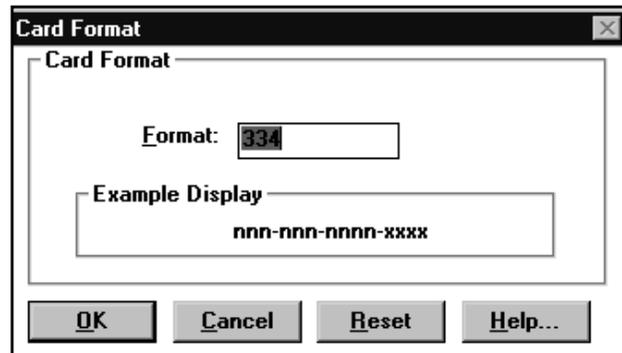

FIGURE 91. Example of Card Format dialog box
1. To set the number of digits between each separator in a card number, select Card Format in the configuration window. (See Figure 91.)